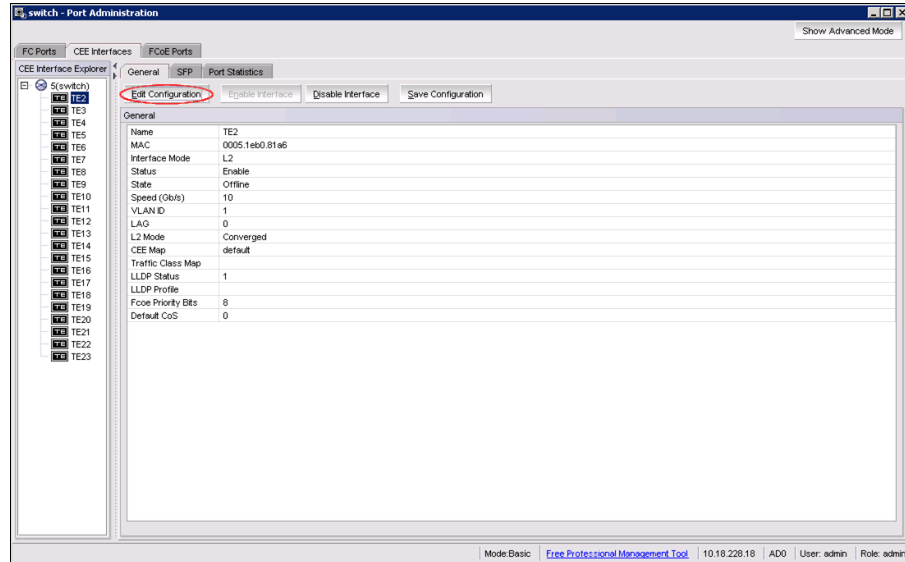

Figure 5-44 CEE Interface General Tab
4. Select **Edit Configuration** (Figure 5-44).